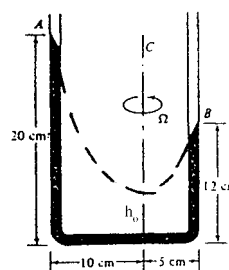

Fig. P2.155
**2.155** For what uniform rotation rate in r/min about axis C will the U-tube fluid in Fig. P2.155 take the position shown? The fluid is mercury at 20°C.